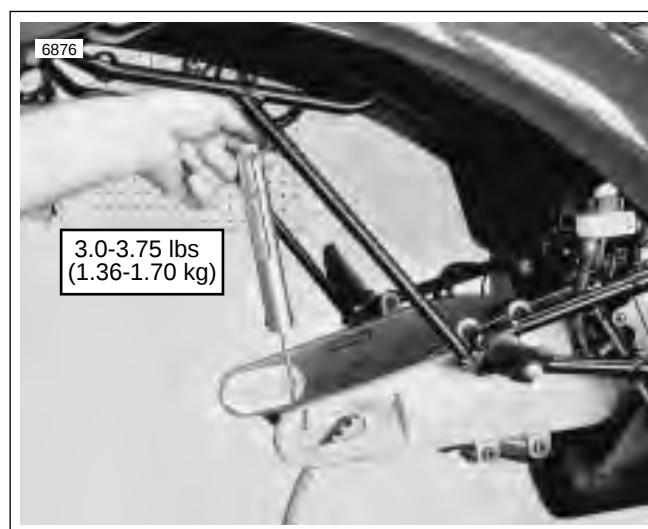

Figure 2-65. Checking Preload
3. Tighten left side swingarm pinch screw (4) to 18-20 ft-lbs (24-27 Nm).
4. Install threaded rod (1).
- b. Insert threaded rod through right side bearing adjustment bolt (2) into threads on left side bolt (3).
5. Check swingarm preload using a scale as shown in Figure 2-65. Preload should be 3.0-3.75 lbs (1.36-1.70 kg). If preload does not meet specifications, tighten or loosen threaded rod and recheck.